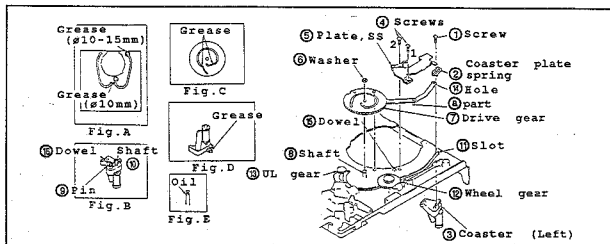

Fig.II-25
• Disassembling (Fig.II-25)
- (1) In the same procedures in "3-3" and "3-12", dismount the capstan motor and the drum unit.
- (2) In the same procedures in "3-13" and "3-14", detach the switch lever, and the loading lever.
- (3) In the same procedures in "3-17", detach the coaster (Right) and the drive gear (Right).
- (4) To take off the coaster plate spring ② and the coaster (left) ③, remove the screw ①.
- (5) To detach the plate SS ⑤, remove the two set screws ④.
- (6) To take off the drive gear (Left) ⑦, remove the washer ⑥ (ø1.5).
• Reassembling (Fig.II-25)
- (1) Apply the grease onto the indicated positions of chassis in the Fig.A.
- (2) Apply the 1/2 drop of oil onto the shaft ⑧. (Fig.E)
- (3) Apply the grease onto the pin ⑨, the shaft ⑩ and the dowel ⑤ of coaster (Left) ③. (Fig.B)
- (4) Assemble the pin ⑨ and the shaft ⑩ aligning the slot ⑪.
- (5) Insert the driver gear (Left) ⑦ into the shaft ⑧ while meshing with the wheel gear ⑫ and the UL gear ⑬.
- (6) Align ④ part with the slot ⑪, and the hole ④ with the pin ⑨ of coaster (Left) ③.
- (7) Secure it with the washer ⑥ (ø1.5).
- (8) Install the coaster plate spring ② while aligning the shaft ⑩ and the pin ⑨ of coaster (Left) ③. Then, secure it with the screw ①. (Torque: 500g/cm, approx)
- (9) Attach the plate SS ⑤ while aligning with the dowel ⑤. Then, secure it the two screws ④ in numerical order.
- (10) Apply the grease onto the positions indicated in the Fig.C and D.